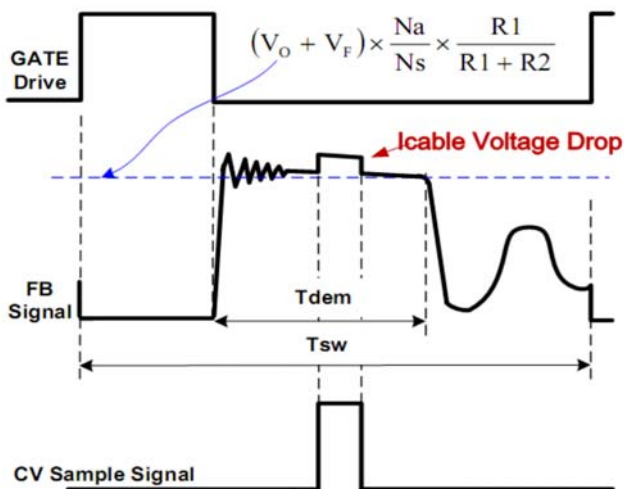

Fig.2
In primary side control, the output voltage is sensed on the auxiliary winding during the transfer of transformer energy to the secondary. Fig.2 illustrates the CV sampling signal timing waveform in U6217. As shown in Fig.2, it is clear that there is a down slope representing a decreasing total rectifier V_f and its voltage drop as the secondary current decreases to zero. To achieve an accurate representation of the secondary output voltage on the auxiliary winding, the CV sampling signal blocks the leakage inductance reset and ringing. When the CV sampling process is over, the internal sample/hold (S&H) circuit captures the error signal and amplifies it through the internal Error Amplifier (EA). The output of EA is sent to the PSR Constant Voltage Modulator (PSR-CVM) for CV control. The internal reference voltage for EA is trimmed to 2V with high accuracy.
During the CV sampling process, an internal variable current source is flowing to FB pin for Cable Drop Compensation (CDC). Thus, there is a step at FB pin in the transformer demagnetization process, as shown in Fig.2. Fig.2 also illustrates the equation for “demagnetization plateau”, where V_o and V_f is the output voltage and diode forward voltage; R1 and R2 is the resistor divider connected from the auxiliary winding to FB Pin, N_s and N_a are secondary winding and auxiliary winding respectively.